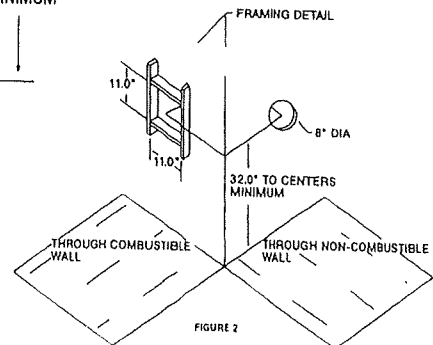

FIGURE 2
1. The minimum distance from the bottom of fireplace to centre of vent is 32 inch (81 cm) (See Figure 1). Cut a hole through the wall allowing for a 11" x 11" (inside diameter) in combustible walls for wall thimble or an 8" diameter hole in a non-combustible wall (See Figure 2).